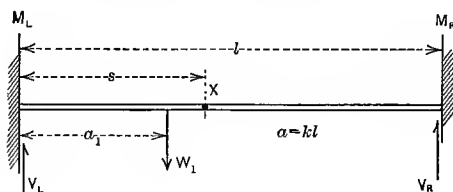

FIG. 39.
**Restrained Beams.**—Referring to Fig. 39, the moment at any section  $X$  is given by equation (d) or